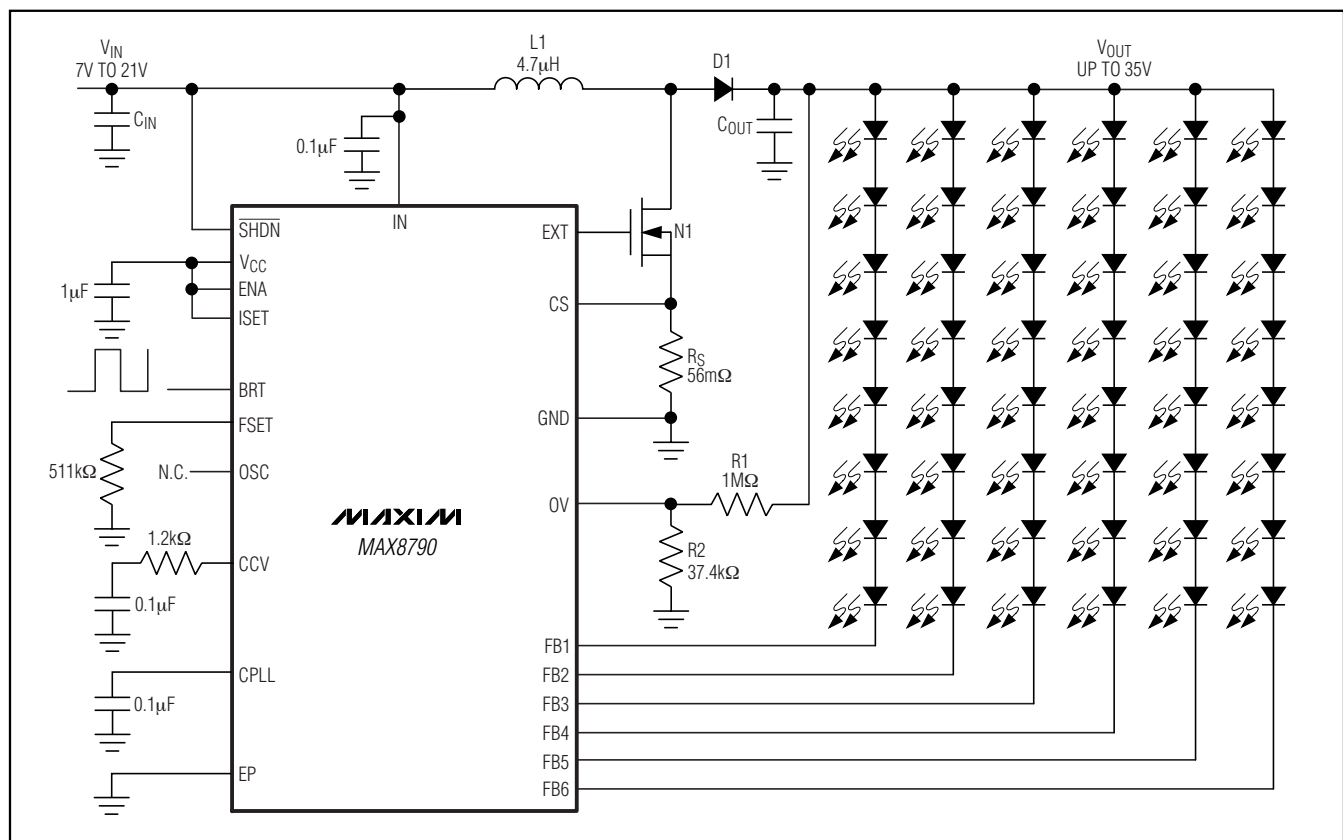

Figure 1. Typical Operating Circuit
To protect the step-up converter when the load is open, or the output voltage becomes excessive for any reason, the MAX8790 features a dedicated overvoltage feedback input (OV). The OV pin is connected to the center tap of a resistive voltage-divider from the high-voltage output (see Figure 1). When the MAX8790 is powered up, if none of the LED strings on FB1–FB6 are connected to the step-up converter output, the step-up converter regulates the output voltage to  $V_{OUT} = 1.23V(1 + R1 / R2)$ . When  $V_{OV}$  exceeds 1.23V, a comparator turns off N1. The step-up converter switch is reenabled after the output voltage drops below the protection threshold.